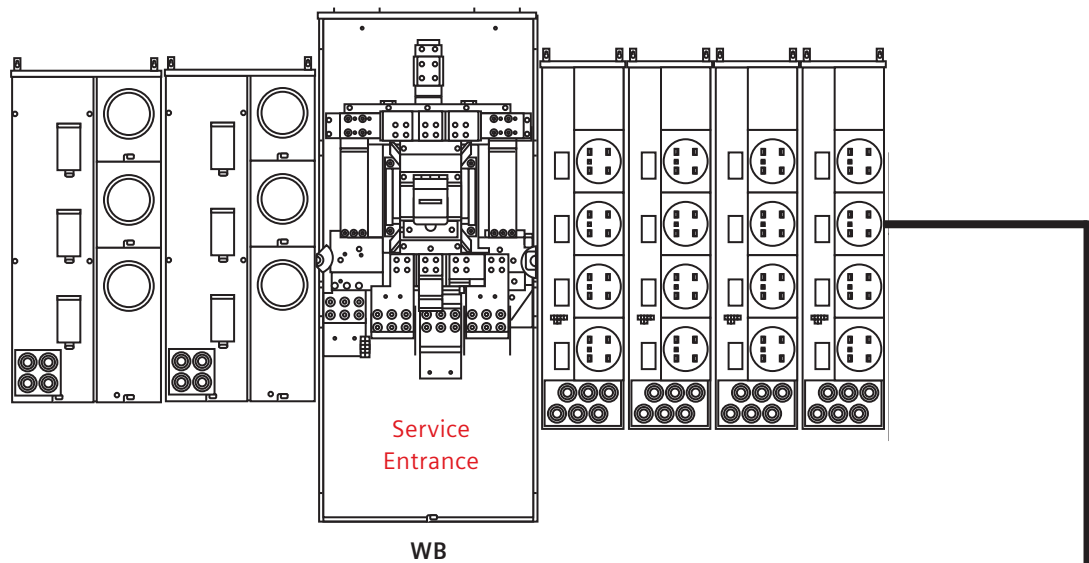

Figure 3
Utilize the WXB cross bus mains to lower your overall material cost. When a large ampacity main is needed (1200A or above) utilizing a tap box and a WXB main can lower the overall cost by eliminating costly large frame breakers from the installation. As shown in figures 3 and 4 the installation does require more wall space, but the overall dollars are lower.
Details: This installation can meet the same application as Figure 3 above, but replaces the 1600 Amp WB main with a tap box (WT31600PU in this case). The service disconnects are labeled #1 and #2 above. By dividing the incoming current into 2 mains- even though more modules were added- the overall list price DROPS to \$13,982. Width grows by 31", BUT there is now a 9% savings on material! ^①